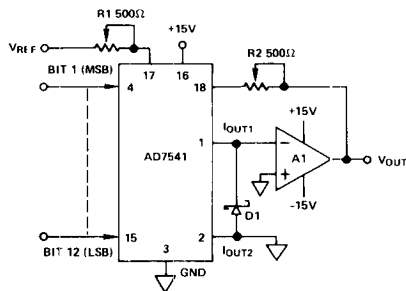

Figure 15. Unipolar Binary Operation
1. Protection diodes as shown in Figures 15 and 16.
function as in Figure 15. Network R3, R4, R5 sum $\frac{1}{2}$ LSB of current into I_{OUT2} to ensure correct coding at zero.
Table 1. Code Table for Circuit of Figure 15.